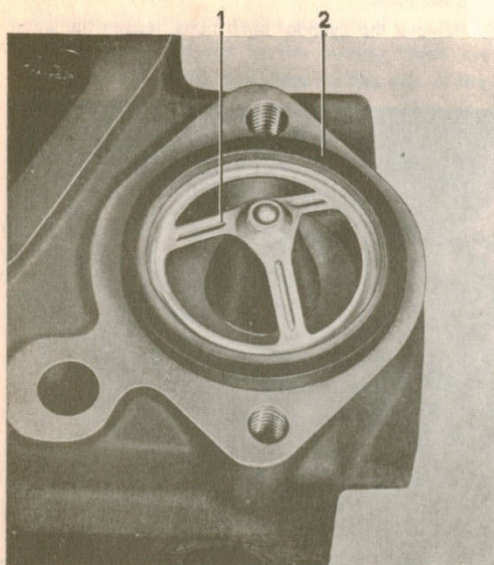

Fig. 1-30. Thermostat
3. Replace the thermostat (1, Fig. 1-30). Use a new gasket.